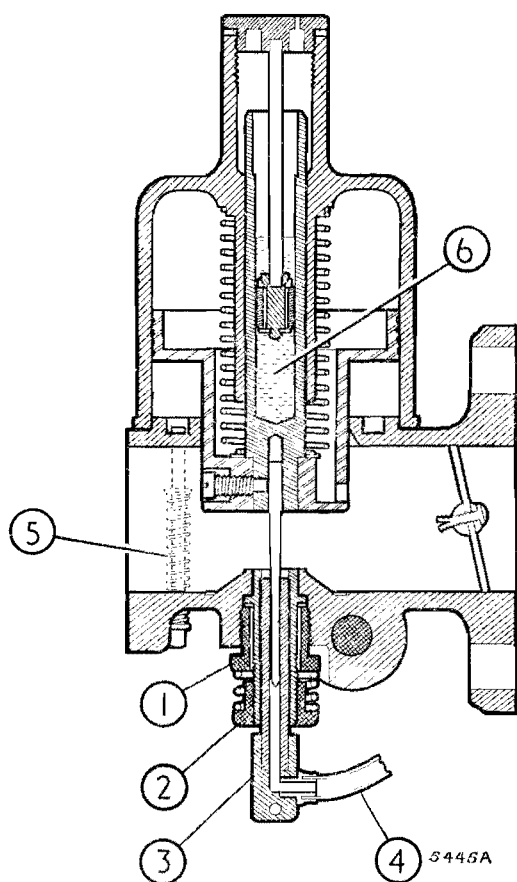

Fig. D.7
When the suction piston is lifted by the spring-loaded piston lifting pin it should fall freely and hit the inside jet bridge with a soft, metallic click—that is, with the jet adjusting nut (2) (Fig. D.7) in its topmost position.
- (1) Disconnect the rod between the jet lever and the jet head (3) (Fig. D.7).
- (2) Unscrew the union holding the nylon feed tube into the base of the float-chamber, and withdraw the tube and jet together. Unscrew the jet adjusting nut and remove the lock spring. Replace the adjusting nut and screw it right up to its topmost position, then replace the jet and feed tube.
- (3) Slacken off the large jet locking nut (1) (Fig. D.7) until the jet bearing is just free to rotate by finger pressure.
- (4) With the damper removed and using a pencil on top of the piston rod, gently press the piston and needle down onto the jet bridge.